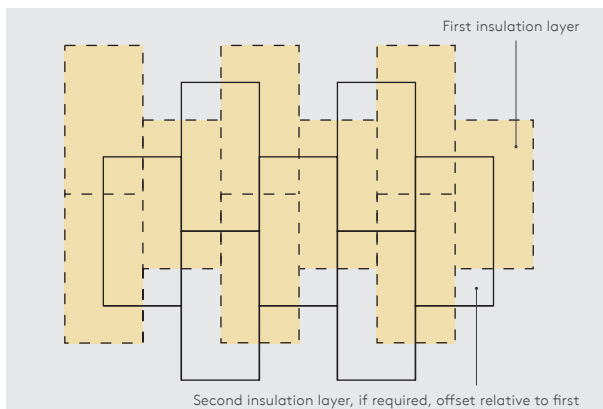

Figure 12: Offsetting of Multiple Insulation Layers
- If two layers of insulation are required, they should be horizontally offset relative to each other so that, as far as possible, the board joints in the two adjacent layers do not coincide with each other (see Figure 12).